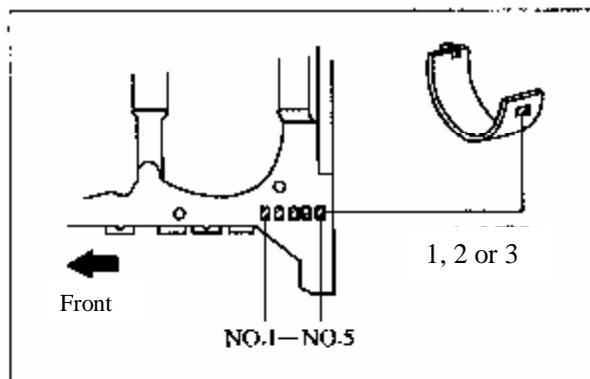

Figure 3-27 Matching of Main Bearing shell
**3.2.9** The main bearing hole dimensions fall into three groups. The grouping numbers for first to fifth holes are marked on rear end of bottom plane of cylinder block. The main bearing shells also fall into three groups. During assembly, select the main bearing shell with the same grouping number as main bearing hole, and install it into corresponding main bearing hole (see Figure 3-27).